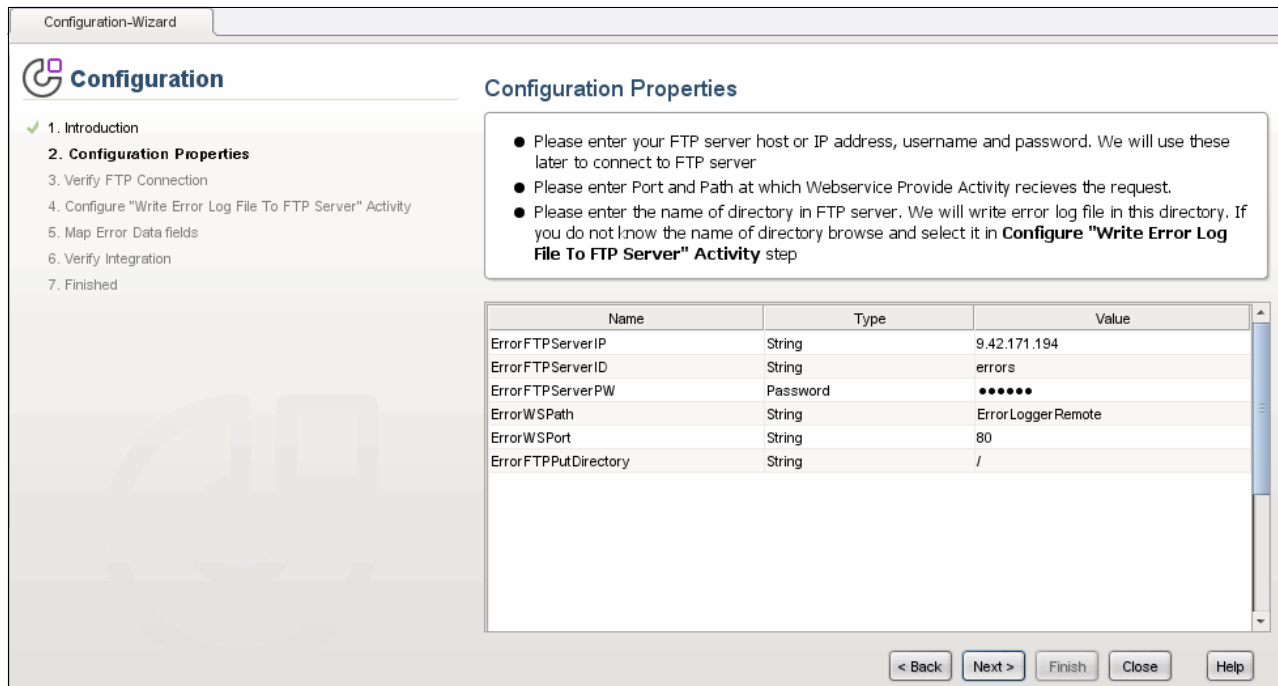

Figure 7-26 Configuration Wizard Configuration Properties step
3. Read the instructions, and enter valid values for the required configuration properties, as shown in Figure 7-26 on page 313. Click **Next**.